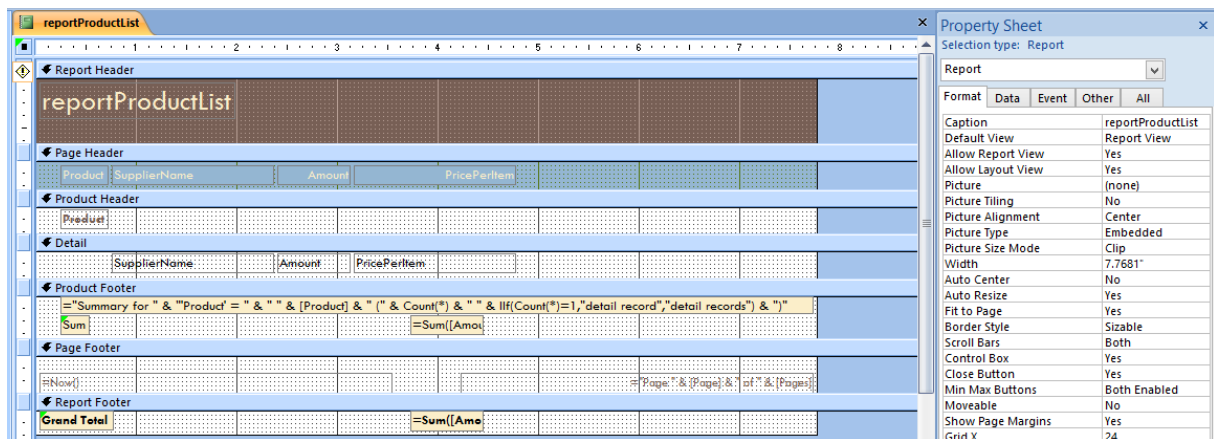

Figure 5.2
1. Open “Design View” of the report created on previous step, and open property sheet of the report (figure 5.2).